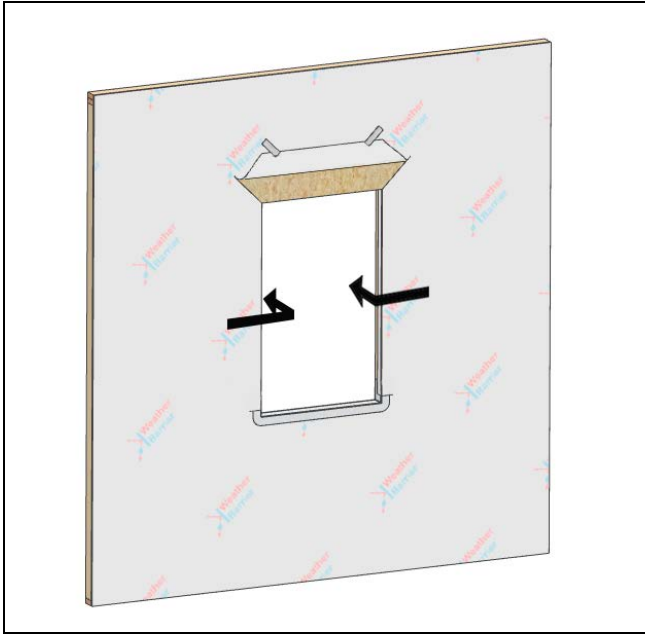

Figure 19
4. Wrap side flaps to the interior and staple in place about 1-1/2" from the interior edge of the opening. Cut the excess off near the staple so that a 1" to 1-1/2" strip of bare wood is exposed. Tape this edge with seam seal tape. See Figure 19.